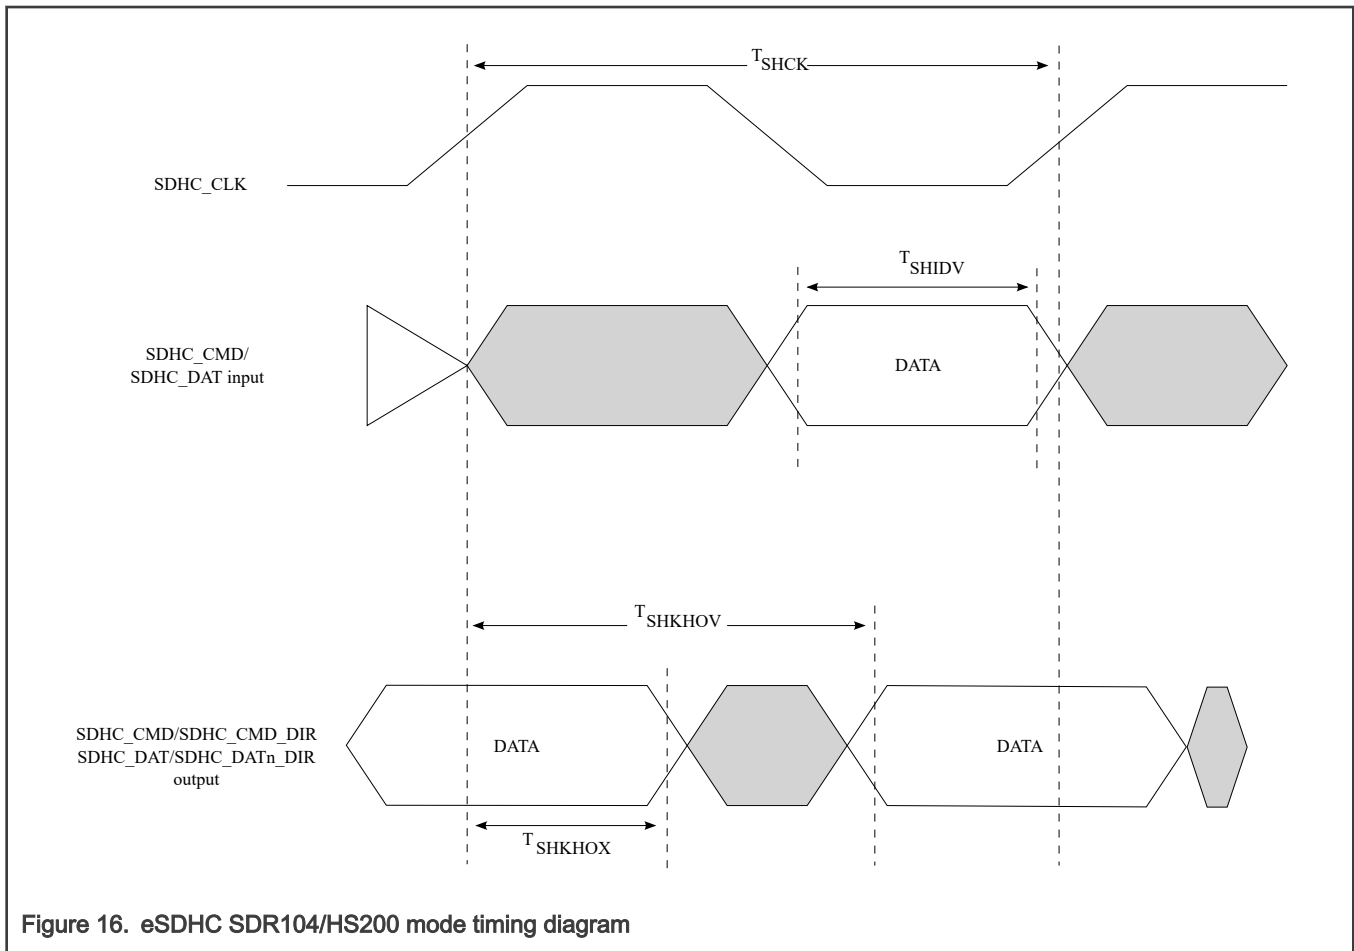

Figure 16. eSDHC SDR104/HS200 mode timing diagram
2. The symbols used for timing specifications herein follow the pattern of $t_{(first\ two\ letters\ of\ functional\ block)(signal)(state)\ (reference)(state)}$ for inputs and $t_{(first\ two\ letters\ of\ functional\ block)(reference)(state)(signal)(state)}$ for outputs. For example, t_{SHKHGX} symbolizes eSDHC highspeed mode device timing (SH) clock reference (K) going to the high (H) state, with respect to the output (O) reaching the invalid state (X) or output hold time. Note that in general, the clock reference symbol is based on five letters representing the clock of a particular functional. For rise and fall times, the latter convention is used with the appropriate letter: R (rise) or F (fall).
3. See Figure 16.
5. For HS400 without enhanced strobe (DQS) command, see Figure 16.